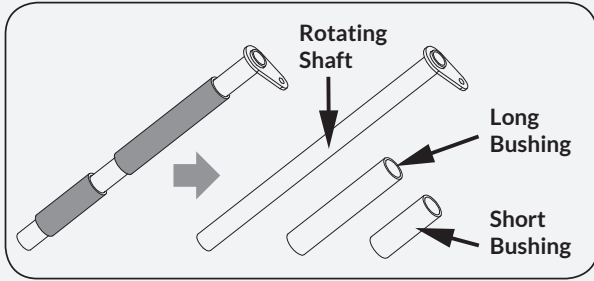

Figure 19a
1. Remove the long bushing and short bushing from the rotating shaft before assembly. (See **Figure 19a**)